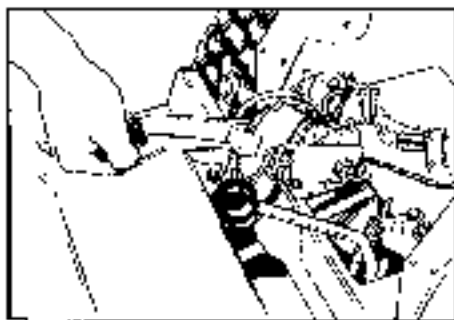

Figure 28. Grasping Upper Handle
11. Place the speed control lever all the way down in low speed position. Then grasp only the upper handle as shown in figure 28 and pull up hard to lock the lever in position (use 25 to 40 lbs. of force).